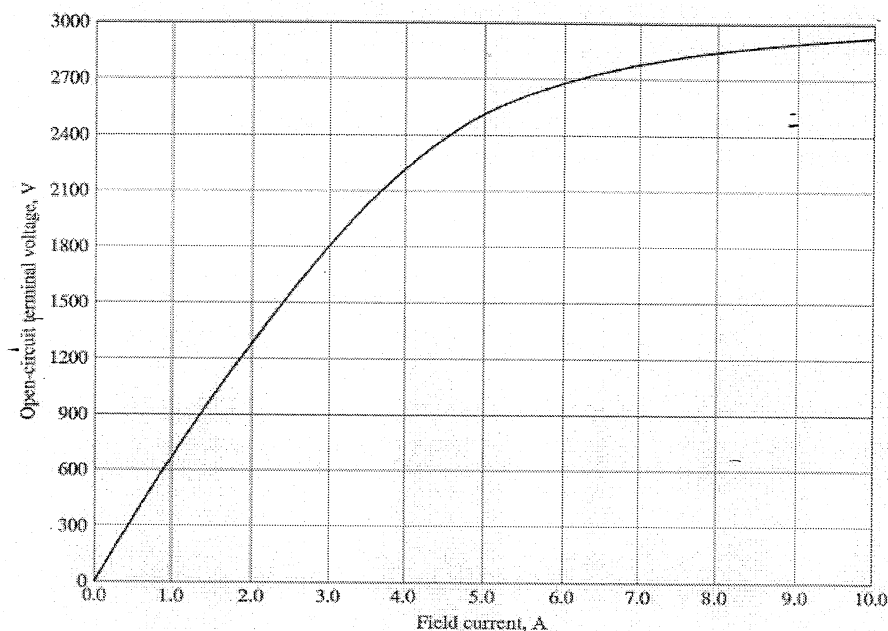

Figure Q5: Open circuit characteristics
- b. A 2300 V 1000-kVA 0.8-PF-lagging 60-Hz two-pole Y-connected synchronous generator has a synchronous reactance of 1.1Ω and an armature resistance of 0.15Ω . At 60 Hz, its friction and windage losses are 24 kW, and its core losses are 18 kW. The field circuit has a dc voltage of 200 V, and the maximum Field current is 10 A. The resistance of the field circuit is adjustable over the range from 20 to 200 Ω . The OCC of this generator is shown in Figure Q5.